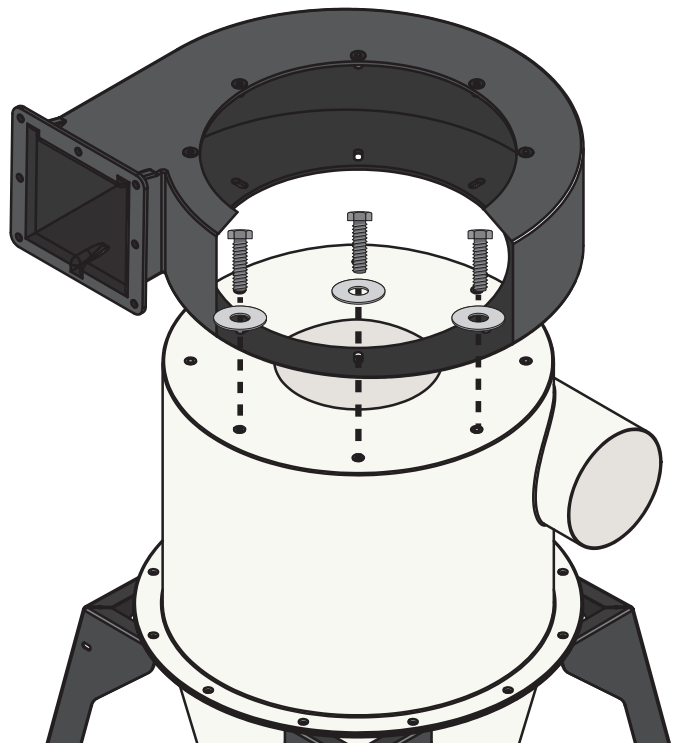

FIG. 5
Lift the Fan Housing (B) onto the Barrel (C), making sure it is oriented so that the molded “UP” text is visible. Align the housing’s holes with the holes in the barrel and keep in mind the direction you want your outlet to face. [FIG. 5]